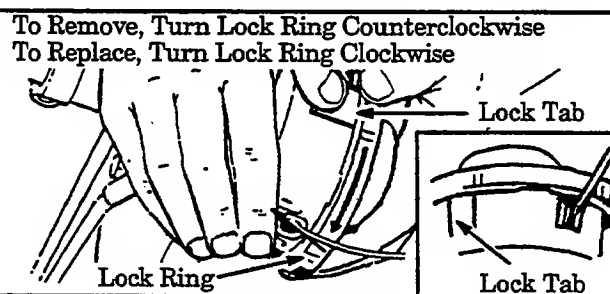

Figure 15
- a. Hold the trimmer head as shown in Figure 15. Press the lock tab and turn the lock ring as shown in Figure 15.